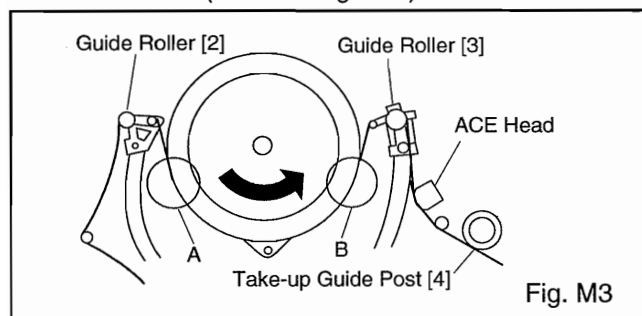
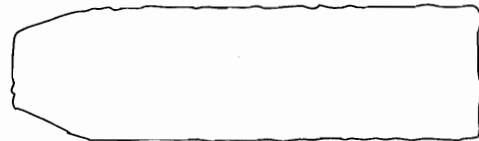
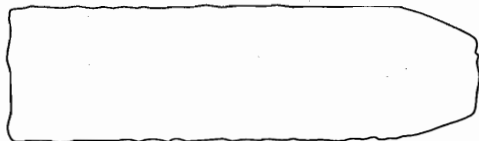
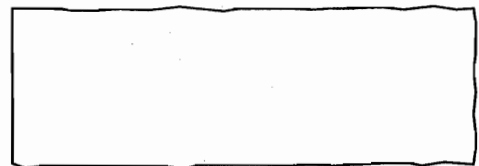

Fig. M3
Fig. M7
Fig. M8
Fig. M9
1. Play back a blank cassette tape and check to see that the tape runs without creasing at Guide Rollers [2] and [3], and at points A and B on the lead surface. (Refer to Fig M3 and M4.)
2. If creasing is apparent, align the height of the guide rollers by turning the top of Guide Rollers [2] and [3] with a Guide Roller Adj. Screwdriver. (Refer to Fig. M3 and M5.)
3. Check to see that the tape runs without creasing at Take-up Guide Post [4] or without snaking between Guide Roller [3] and ACE Head. (Fig. M3 and M5)
2. Play back the Gray Scale on the Alignment Tape (FL8N). Set the Tracking Control Circuit to the center position by pressing the CH UP and then the PLAY button on the VCR. Adjust the height of Guide Rollers [2] and [3] (Fig. M3, Page 2-3-3) watching the oscilloscope display so that the envelope becomes as flat as possible. To do this adjustment, turn the top of the Guide Roller with the Guide Roller Adj. Screwdriver.
3. If the envelope is as shown in Fig. M7, adjust the height of Guide Roller [2] (Refer to Fig. M3) so that the waveform looks like the one shown in Fig. M9.
4. If the envelope is as shown in Fig. M8, adjust the height of Guide Roller [3] (Refer to Fig. M3) so that the waveform looks like the one shown in Fig. M9.
5. When Guide Rollers [2] and [3] (Refer to Fig. M3) are aligned properly, there is no envelope drop either at the beginning or end of track as shown in Fig. M9.
Note: Upon completion of the adjustment of Guide Rollers [2] and [3] (Refer to Fig. M3), check the X Value by pushing the CH UP or DOWN buttons alternately, to check the symmetry of the envelope. Check the number of pushes to ensure center position. The number of pushes UP to achieve 1/2 level of envelope should match the number of pushes DOWN from center. If required, redo the "X Value Alignment."